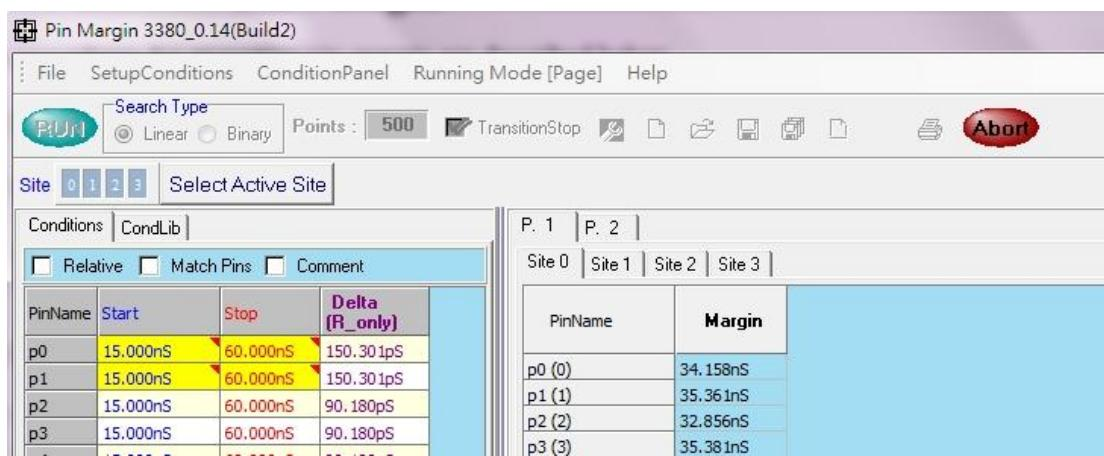

Figure 14-14 Press “Abort” Button to Stop Running
- (1) Load test plan and break on certain JUDGE statement.
- (2) Setup and add test conditions to the conditions list.
- (3) Decide the search mode (Linear or Binary). If choose the binary search mode, check the “Points” and “Transition Stop”.
- (4) Press “Run” button to get Pin Margin Plot.
- (5) While running, there is an “Abort” button appears on the right top of window (Figure 14-14). To stop the current running pin margin program, click “Abort” button.